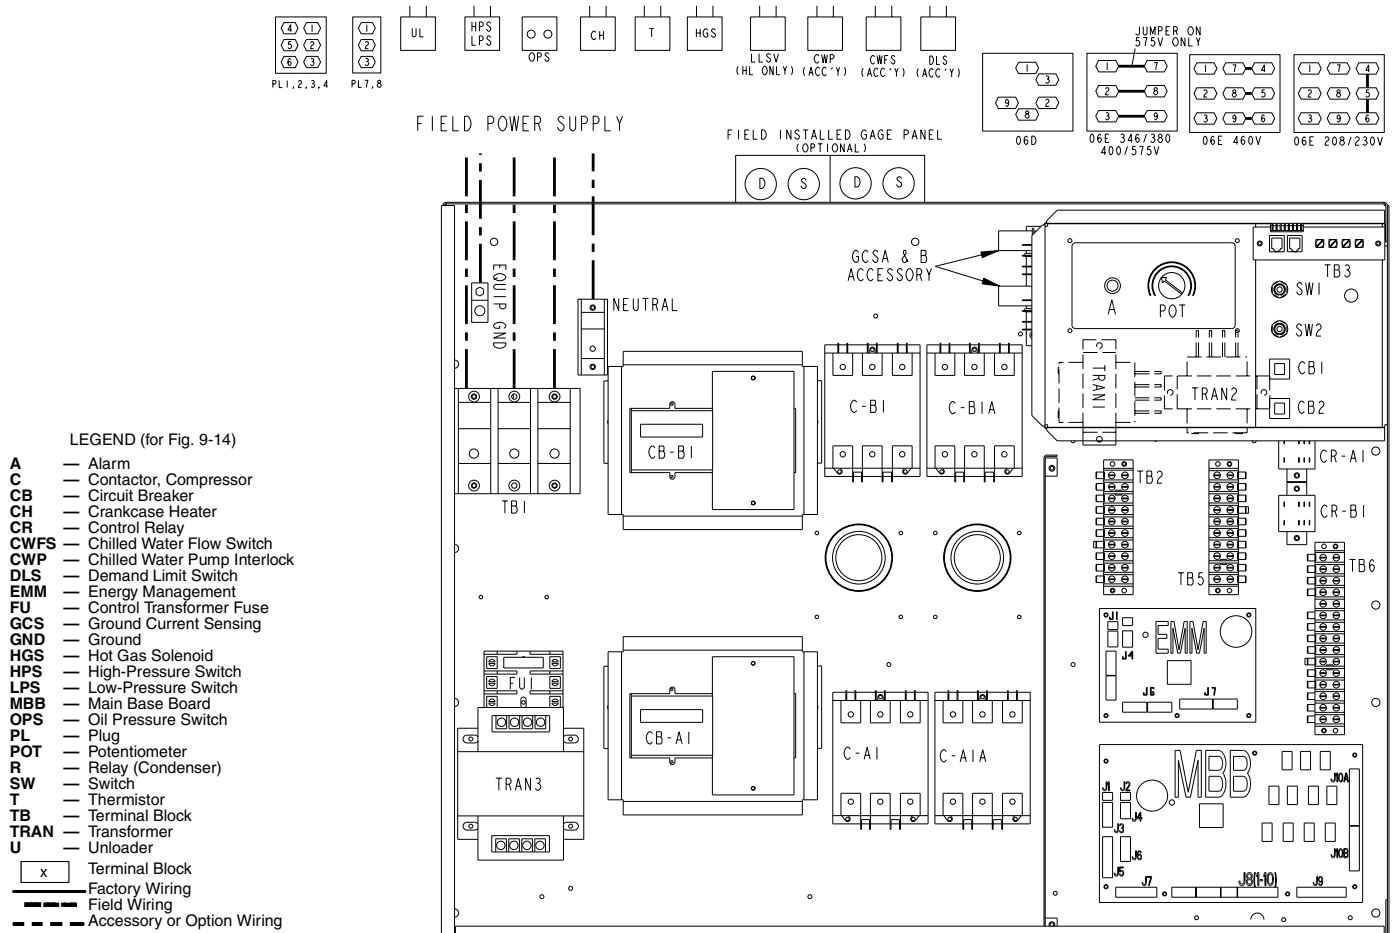
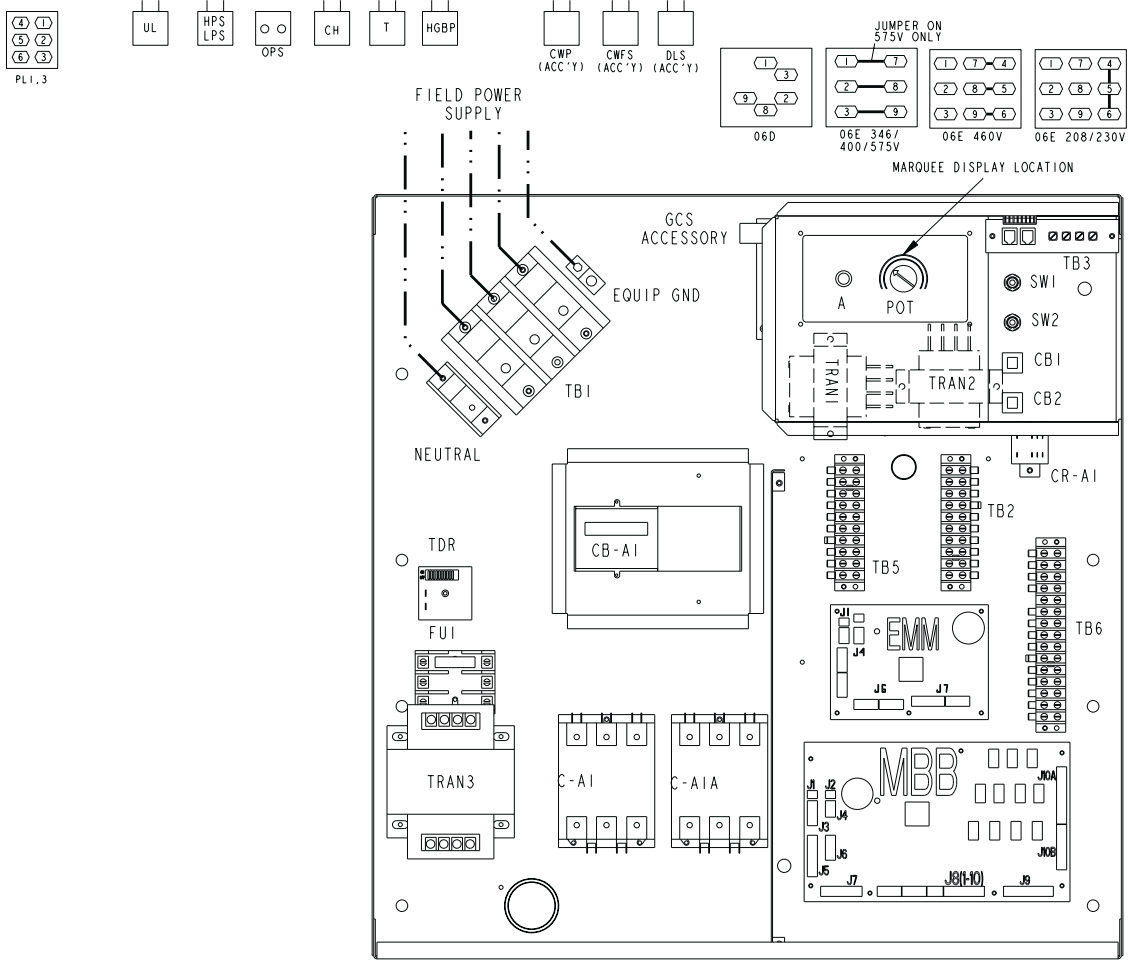
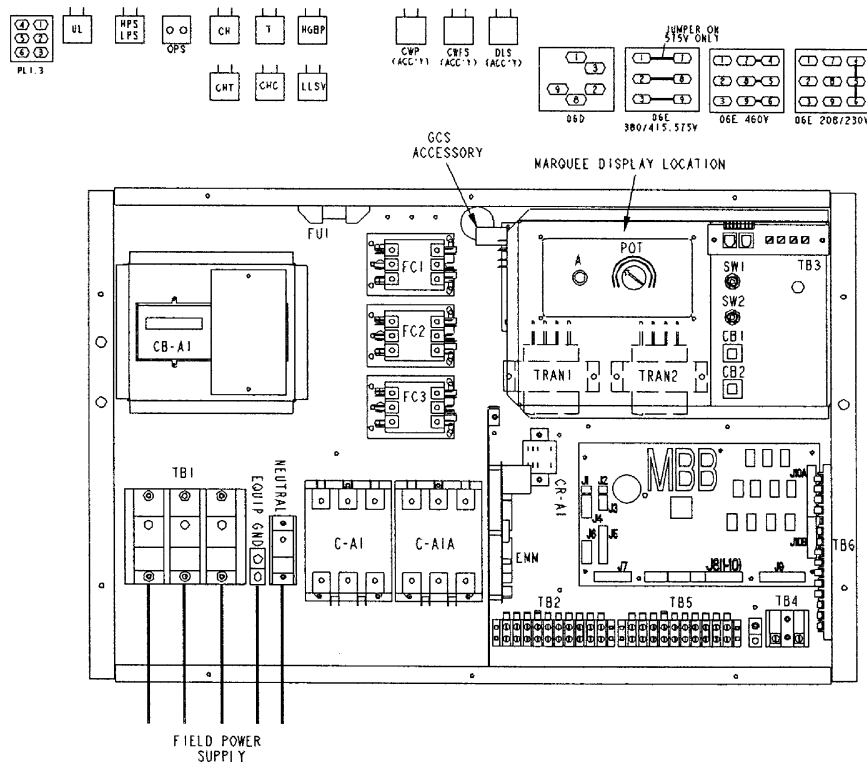

Fig. 9 — 30HK,HL Control Box Component Arrangement, ComfortLink Units
Fig. 10 — 30HW Control Box Component Arrangement, ComfortLink™ Units
Fig. 11 — 30GTN Control Box Component Arrangement, ComfortLink™ Units
1. Mount compressor ground current board(s) (Table 1, Item 1). See Fig. 9 for 30HK,HL units. See Fig. 10 for 30HW units. See Fig. 11 for 30GTN units. Use 4 screws provided (Table 1, Item 5) to mount each board. Mounting holes are pre-drilled in the left side of the fuse/circuit breaker/display bracket located in the upper right corner of the control box.
3. Install 6-in. (152 mm) wire (Table 1, Item 4) with the piggyback terminal on GCS-A-A. The other end of the wire should be connected to GCS-A-COM. For 30HK,HL units, install the other 6-in. (152 mm) wire (Table 1, Item 4) with the piggyback terminal on GCS-B-A. The other end of the wire should be connected to GCS-B-COM. See Fig. 9, 10 or 11 for locations in control box.